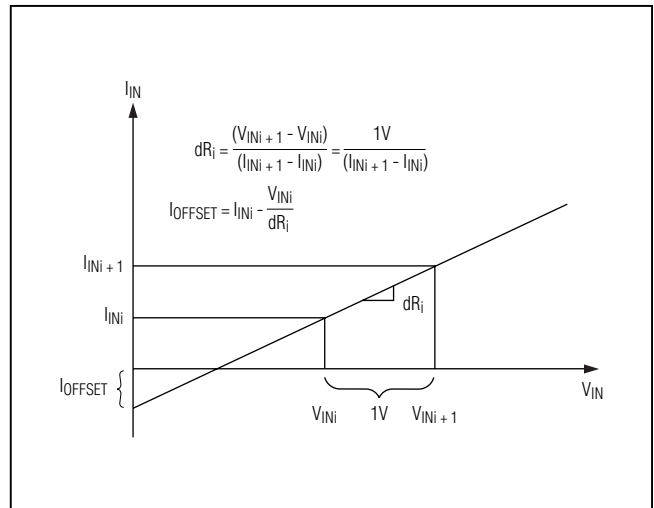

図 2. 実効差動抵抗およびオフセット電流
**Note 4:** The input offset current is illustrated in Figure 2.
**Note 5:** Effective differential input resistance is defined as the differential resistance between  $V_{DD}$  and GND, see Figure 2.